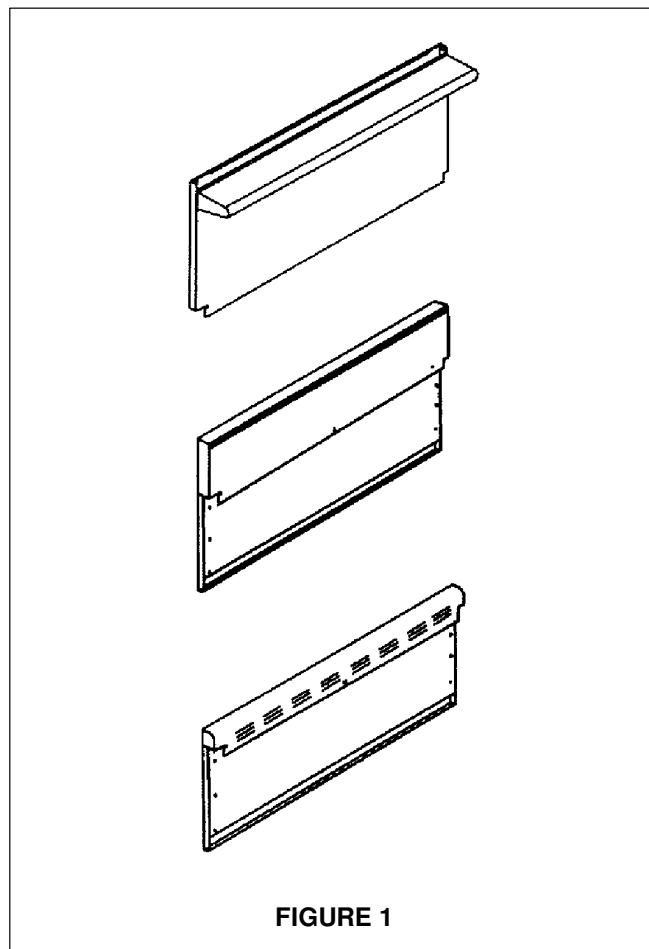

FIGURE 1
The features offered by the Jenn-Air professional series of gas ranges are certain to make the cooking experience more enjoyable and provide the novice or the experienced chef with years of enjoyment. A large capacity gas oven with a gas infrared broiler is included on the 30", 36" and 48" ovens. The PRG4810 (48") range is also equipped with a smaller 12" oven that is perfect for baking breads and other small items while the larger items are being prepared in the large capacity convection oven. Model PRG3010 offers (4) 15,000 Btu/Hr. top burners, while the 36" and 48" models offer (6) 15,000 Btu/Hr. top burners. All ranges are equipped with dual flow simmer burners with a simmer turn down of 570-900 Btu/Hr, which can be used for melting butter or chocolates. Model PRG3010 offers one simmer burner, while models PRG3610 and PRG4810 offer two simmer burners each. In addition to the large capacity oven and high output top burners, the 48" range also offers a stainless steel griddle. All range models require installation of one of the three backguards (this piece must be ordered separately) except the PRG3010 model, which is shipped standard with a 9" low back. See Figure 1.